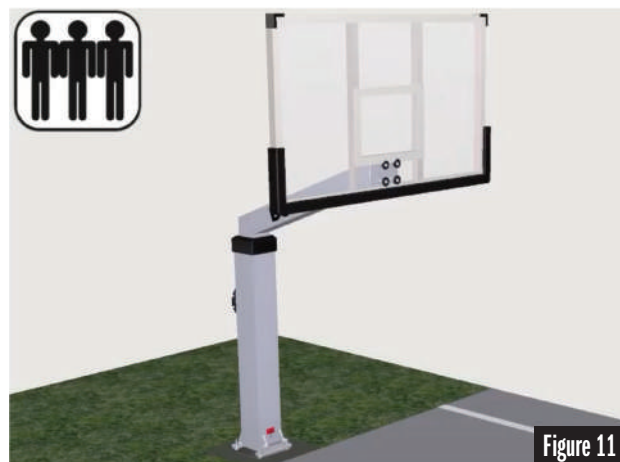

Figure 11
- Raise the hoop until it is standing straight up. Hold the hoop in position for the following steps. See Figure 11.